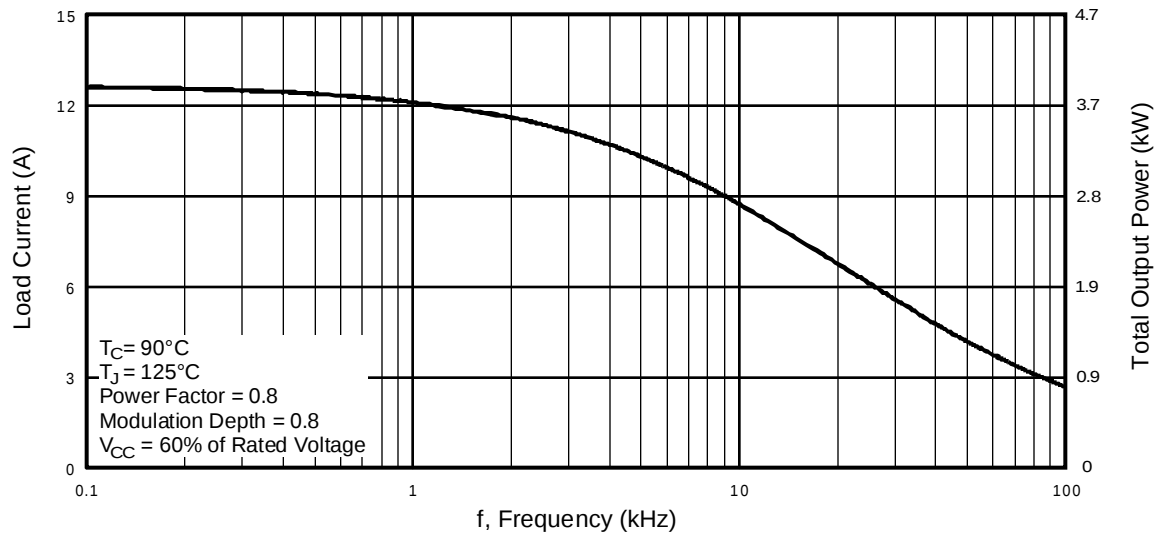

Fig. 1 - RMS Current and Output Power, Synthesized Sine Wave
See Fig. 1 for Current vs. Frequency curve
8.8 A_{RMS} per phase (2.7 kW total) with T_C = 90°C, T_J = 125°C, Supply Voltage 360Vdc, Power Factor 0.8, Modulation Depth 80% (See Figure 1)